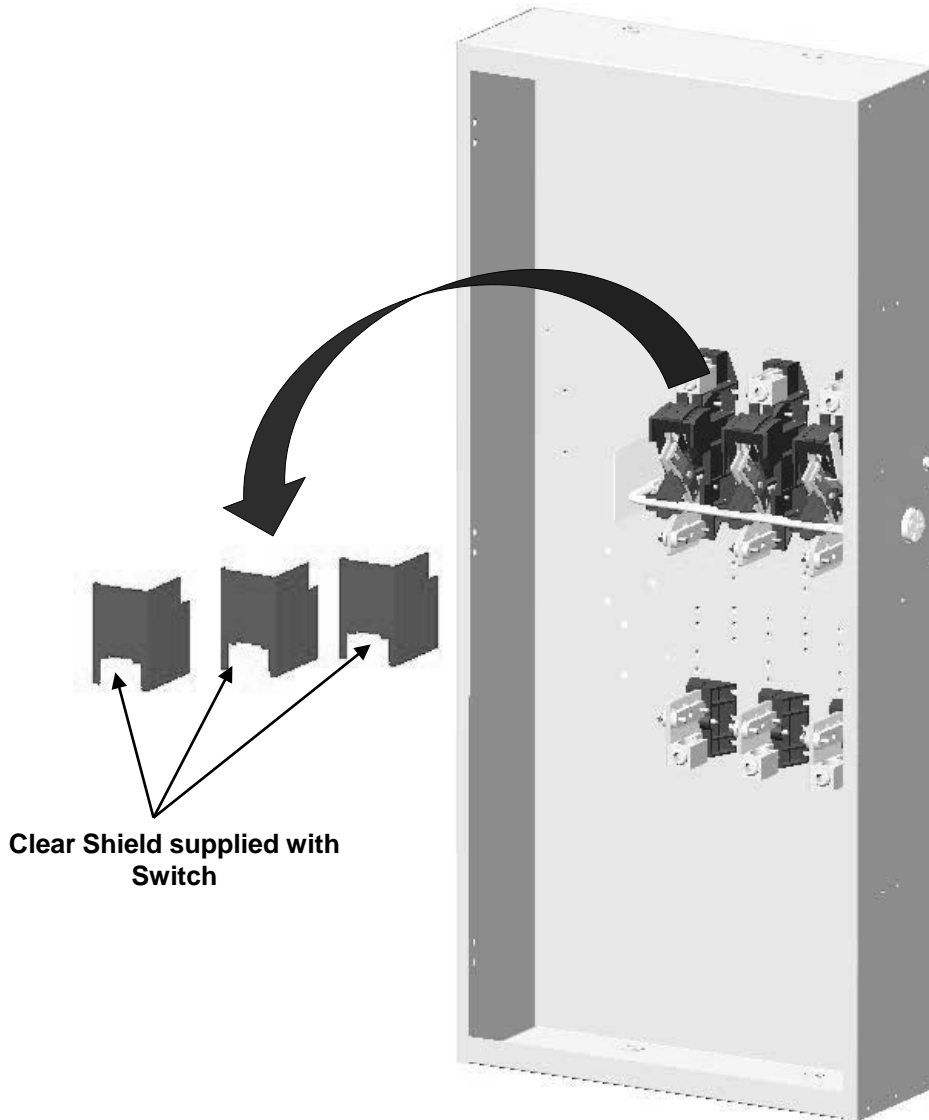

Fig. 1
2. Remove factory installed, Clear Shield from the Line Base as shown in Fig. 1.